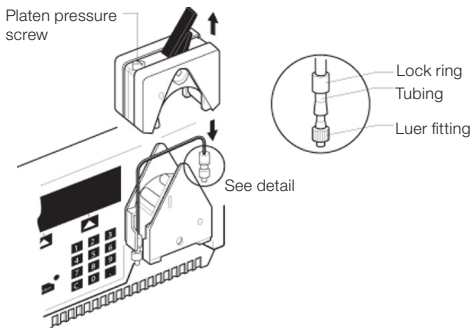

Fig. 1. BioLogic LP system setup.
2. Assemble with fittings and lock rings as shown in Figure 1 (use orange lock rings and medium size barb fittings with 1.6 mm tubing).